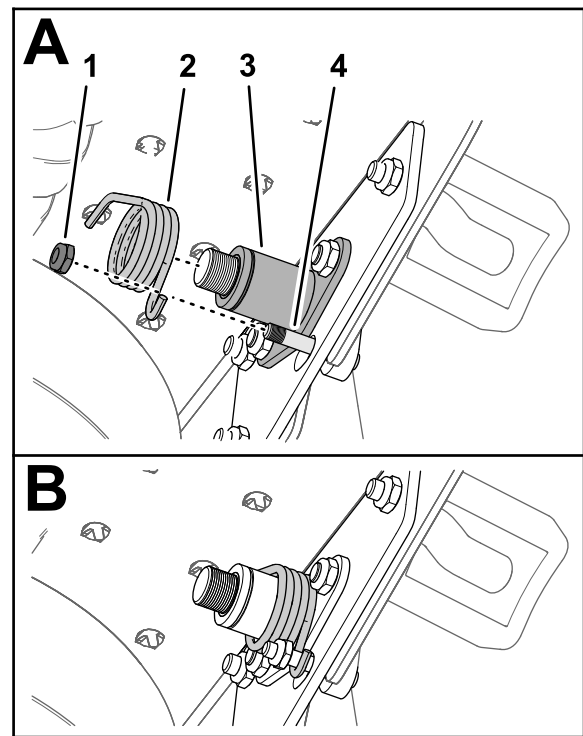

Figure 13
11. Slide the torsion spring onto the bushing plate while hooking 1 end of the spring onto the small stud on the locking pedal and pressing the other end against the floor plate (Figure 13).
12. Secure the torsion spring to the small stud with a locknut (1/4 inch); refer to Figure 13.